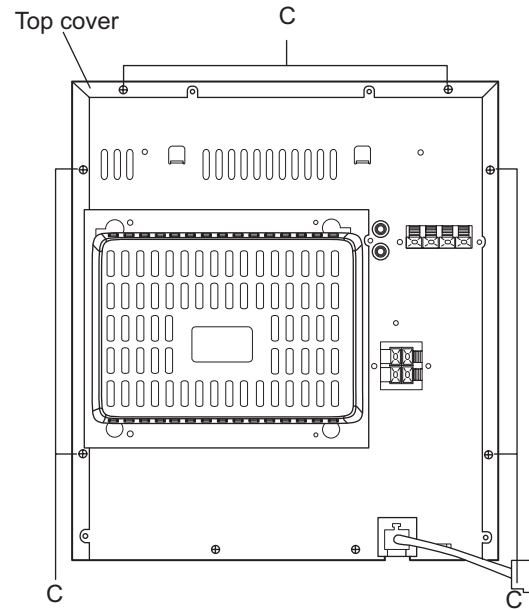

Fig.4
3.1.4 Removing the top cover (See Fig.4 and 5)